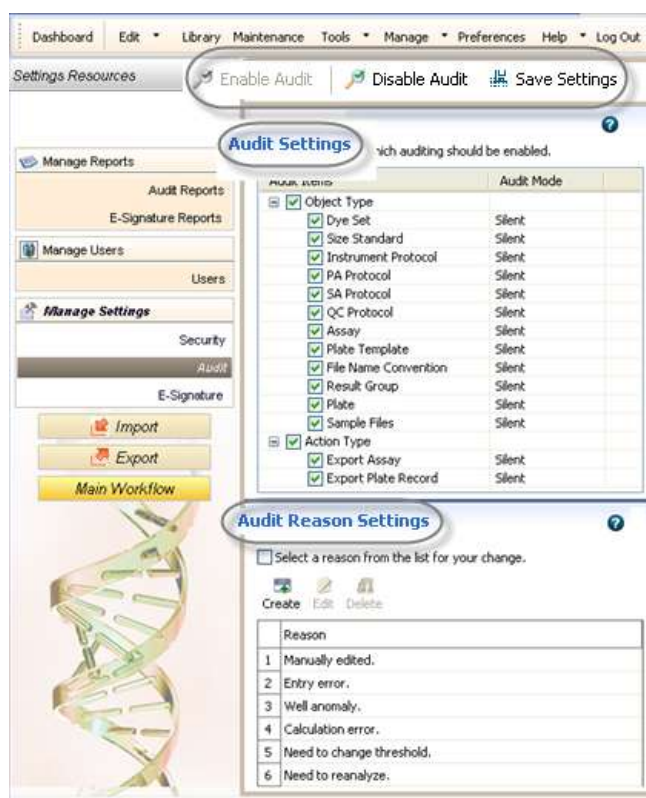

Figure 28 Audit – disable or enable
2. Click **Disable Audit** or **Enable Audit** (Figure 28 on page 200).